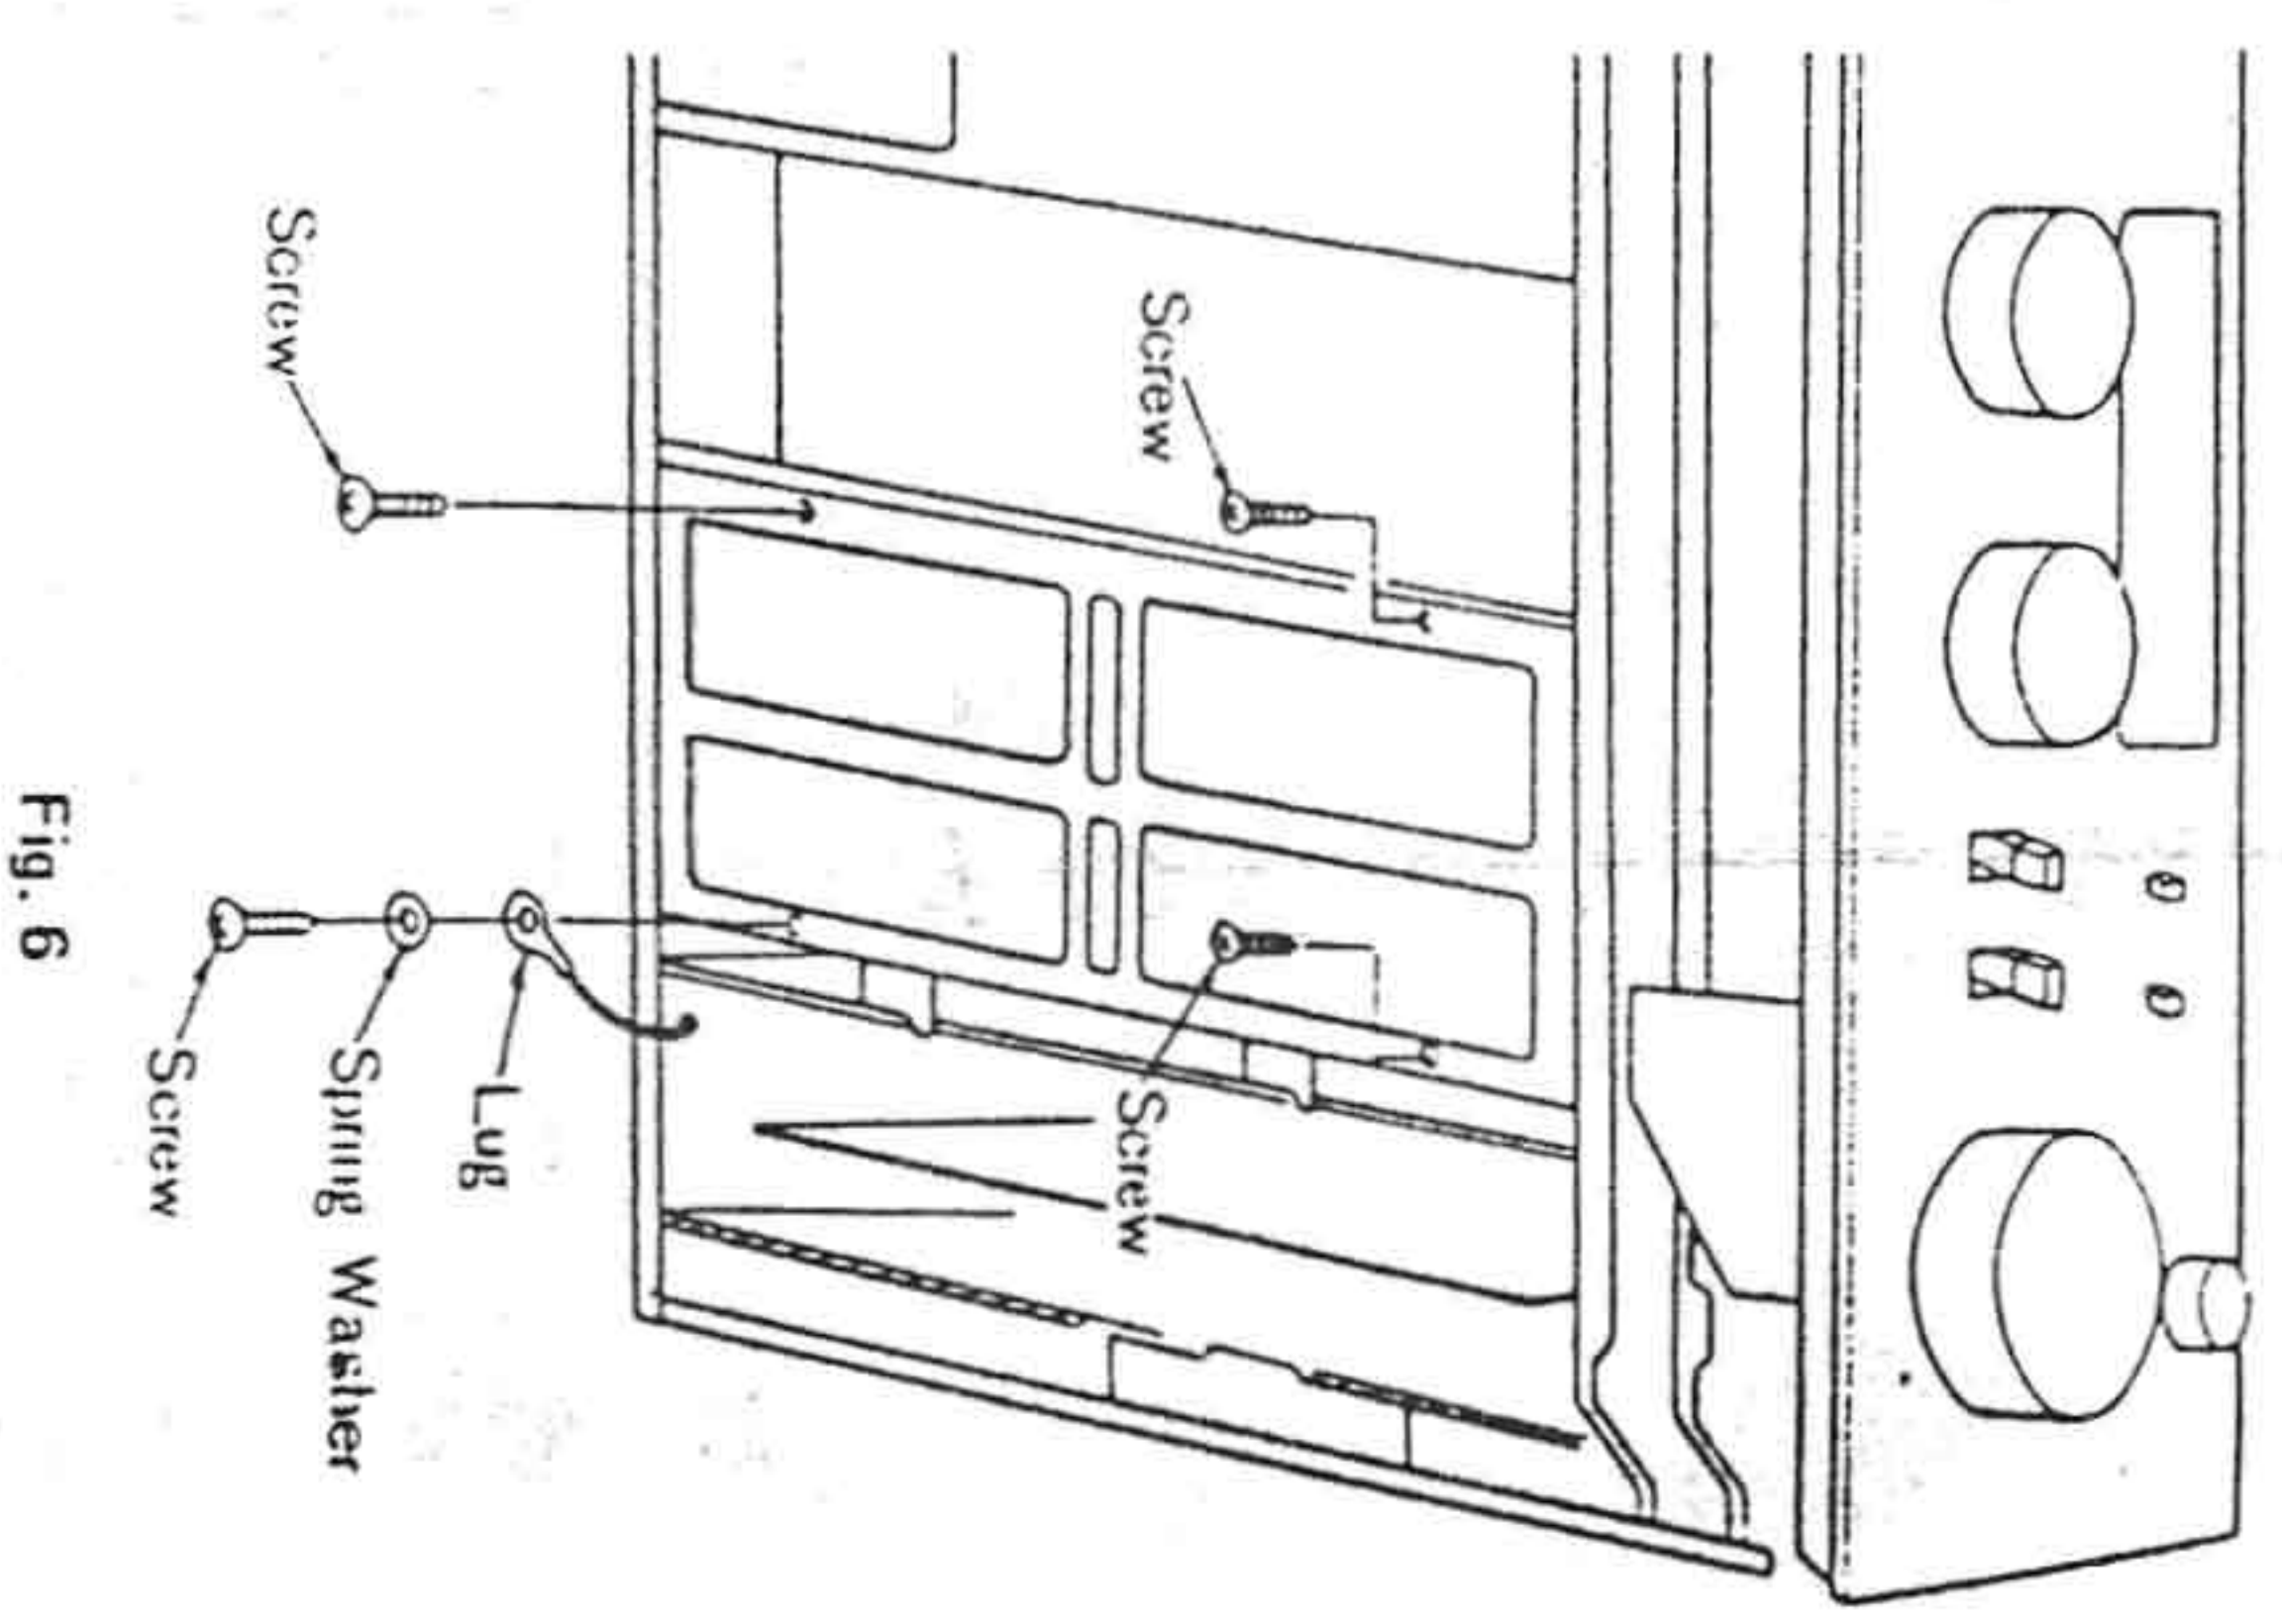

Fig. 6
2. Remove four heat sink screws from the back of the set. (Fig. 6)